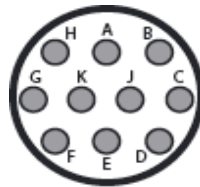

Figure 6 - Wiring to Amphenol connector
- 4) Connect the horn to the 10 pin serial port connection on the Barracuda (figure 6) and power up the unit. To test operation, send any tone to the sound card and check that the Horn operates. **Note:** Please ensure the volume sound bar is turned to the maximum position. Low volume levels may not be enough to trigger the Horn Board detector. **Warning:** The horn is loud! Be prepared for the loud noise when the horn board operates.